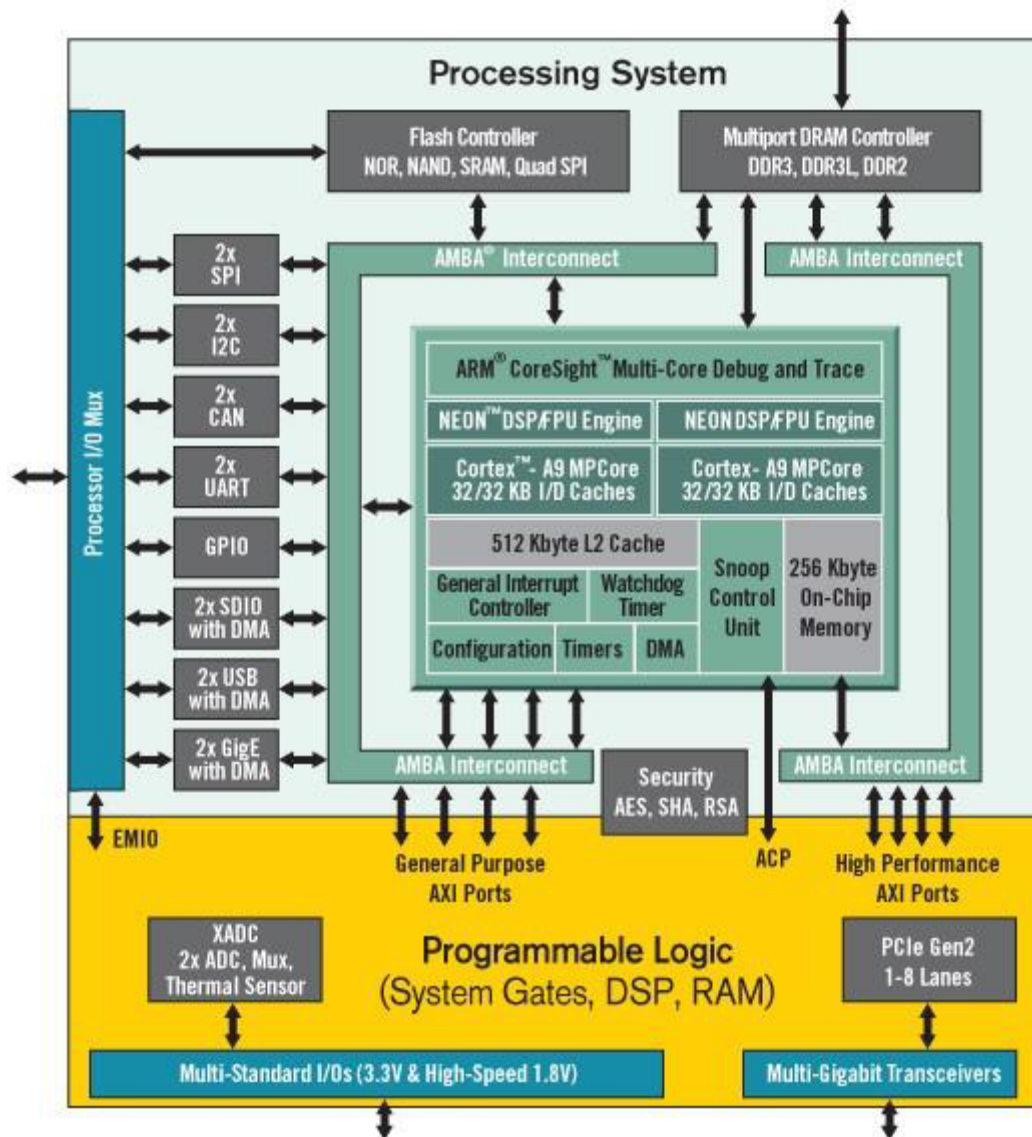

Figure 3. Zynq AP SoC architecture.
The Zynq AP SoC is divided into two distinct subsystems: The Processing System (PS), and the Programmable Logic (PL). Figure 3 shows an overview of the Zynq AP SoC architecture, with the PS colored light green and the PL in yellow. Note that the PCIe Gen2 controller and Multi-gigabit transceivers are not available on the Zynq-7010 device.
The PS consists of many components, including the Application Processing Unit (APU, which includes 2 Cortex-A9 processors), Advanced Microcontroller Bus Architecture (AMBA) Interconnect, DDR3 Memory controller, and various peripheral controllers with their inputs and outputs multiplexed to 54 dedicated pins (called Multiplexed I/O, or MIO pins). Peripheral controllers that do not have their inputs and outputs connected to MIO pins can instead route their I/O through the PL, via the Extended-MIO (EMIO) interface. The peripheral controllers are connected to the processors as slaves via the AMBA interconnect, and contain readable/writable control registers that are addressable in the processors' memory space. The programmable logic is also connected to the interconnect as a slave, and designs can implement multiple cores in the FPGA fabric that each also contain addressable control registers. Furthermore, cores implemented in the PL can trigger interrupts to the processors (connections not shown in Fig. 3) and perform DMA accesses to DDR3 memory.
Figure 3 depicts the external components connected to the MIO pins of the ZYBO. The Zynq Board Definition File found on the Digilent ZYBO product page can be imported into EDK and Vivado Designs to properly configure the PS to work with these peripherals.